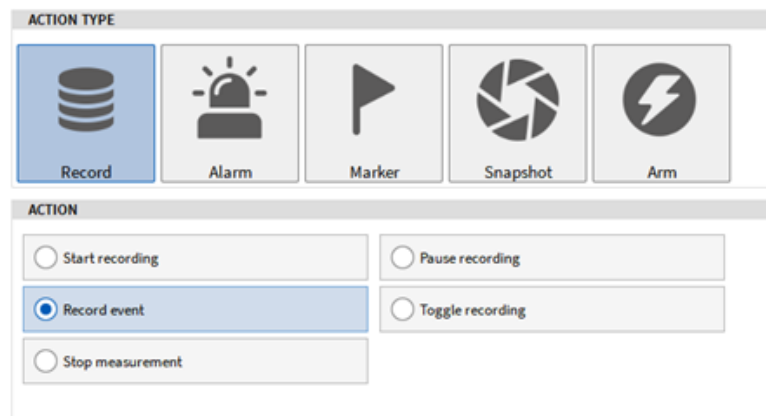

Fig. 9.33: Record Event Action Type
- Select *Record Event* as *Action Type* (see Fig. 9.33):